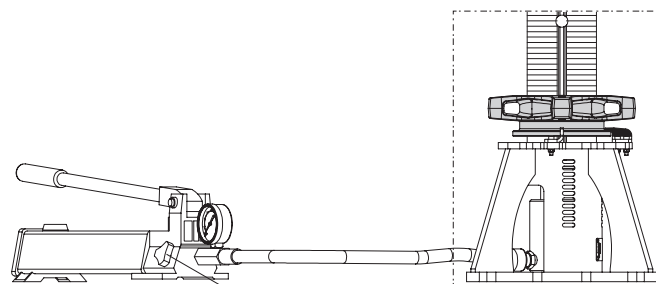

Fig. A5.07
5. Carefully open the pump valve (**11.3**) on the pump and monitor the load indication on the manometer. Cylinder retracts and is lowered with the adjusting nut and prop by max. 10 mm. (Fig. A5.07 + A5.07a)